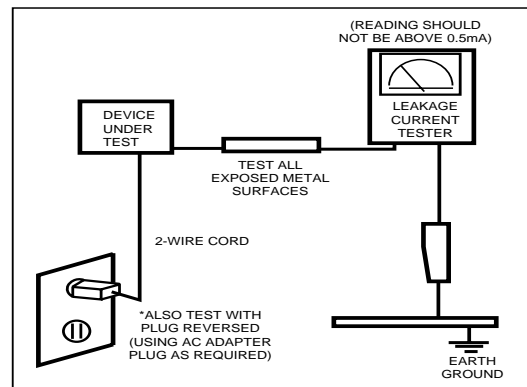

Figure 1-1. Leakage Current Test Circuit
3. Leakage Current Hot Check (Figure 1-1): **WARNING: Do not use an isolation transformer during this test.** Use a leakage current tester or a metering system that complies with American National Standards Institute (*ANSI C101.1, Leakage Current for Appliances*), and Underwriters Laboratories (*UL Publication UL1410, 59.7*).